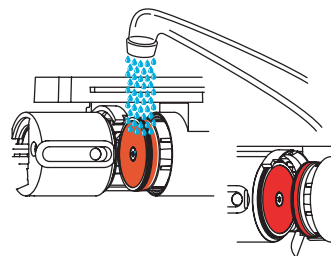

Figure 4-13
6. Thoroughly rinse the brewer clean under the tap (see figure 4-13).